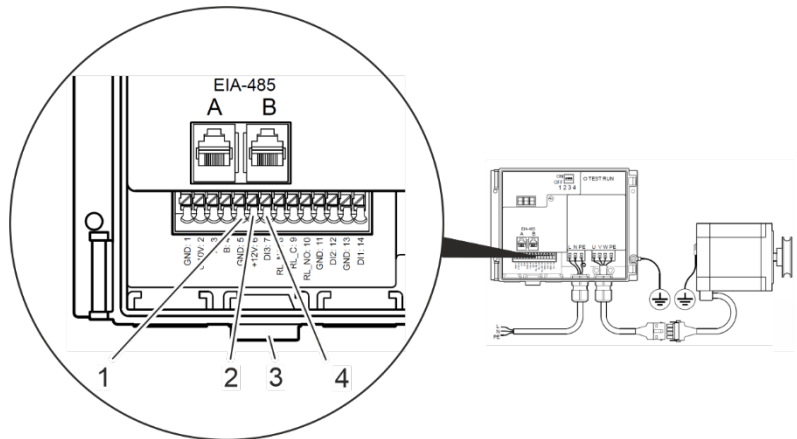
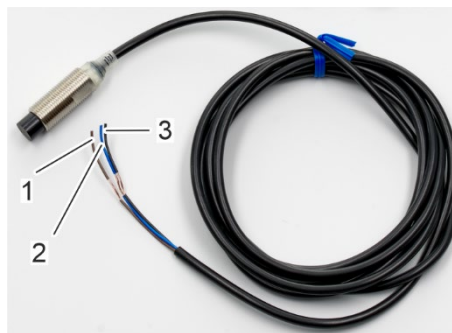

Fig. 102: Terminals clock sensor
Fig. 103: Clock sensor cable
21. Insert the wires of the clock sensor (Fig. 103/1-3) through the cable entry (Fig. 102/3) into the rotor cleaner drive.
22. Connect the blue wire (Fig. 103/2) to terminal 5 (Fig. 102/1, GND).
Connect the brown wire (Fig. 103/1) to terminal 6 (Fig. 102/2, +12V).
23. Connect the black wire (Fig. 103/3) to terminal 7 (Fig. 102/4, DI3).